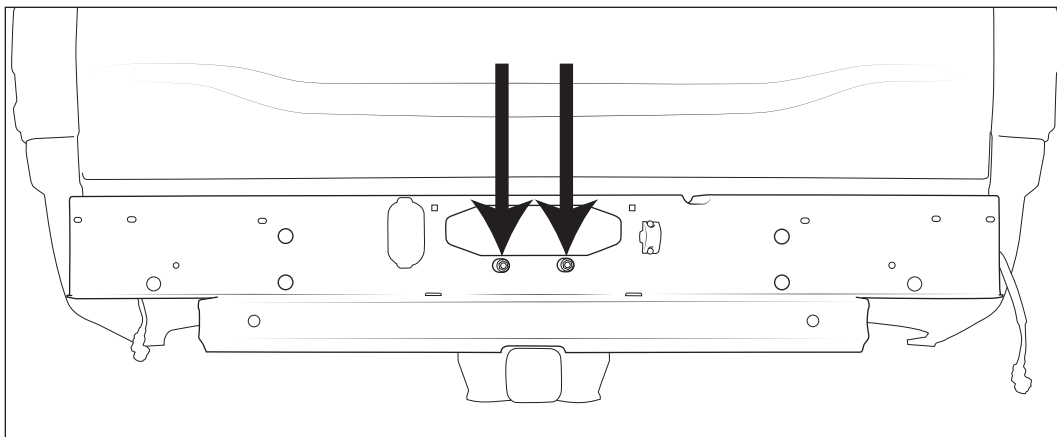

Figure 27
2. Loosely install the two factory nuts to hold Center Section in place (fig. 27)